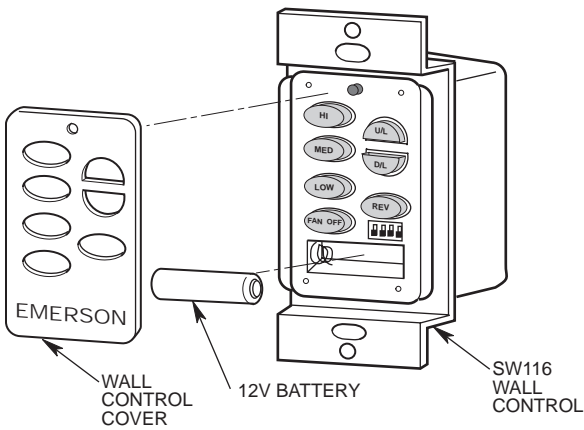

Figure 19
- 1. Install the 12V battery (supplied) into the wall control (Figure 19).
- 2. The SW116 wall control is supplied with a white or almond color cover. Choose the style that best suits your needs and snap the cover onto the wall control (Figure 19).